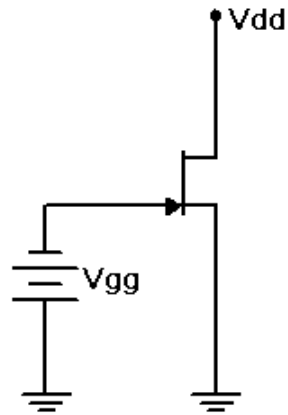

Figure 1
1. Consider the circuit of Figure 1 using $V_{dd} = 15$ volts and $V_{gg} = 0$ volts. With nothing else in the circuit, the resulting drain current should equal I_{DSS} . Similarly, if V_{gg} is gradually changed to a value negative enough to drop the drain current to zero, V_{gg} must be equal to $V_{GS(OFF)}$.
2. Build the circuit of Figure 1 using $V_{dd} = 15$ volts and $V_{gg} = 0$ volts. Insert an ammeter in the drain and record the resulting current in Table 1. Slowly increase the magnitude of V_{gg} (i.e., make it more negative) until the drain current drops to zero (as a practical point, try to get it under $10 \mu\text{A}$, or as low as the ammeter will allow). Record this voltage in Table 1. Repeat this process for the other two transistors. Be sure not to confuse the JFETs. Keep them in order.